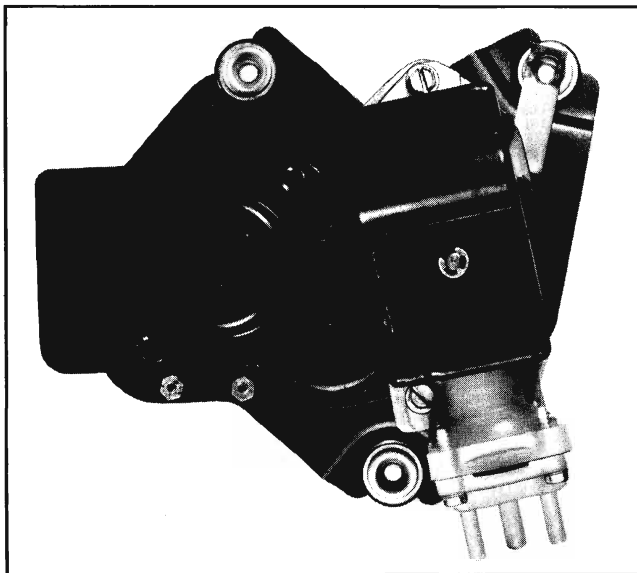

Fig. 11-85 Washer Pump Mounting Screws
1. For wipers equipped with a washer pump remove the two washer pump mounting screws (Fig. 11-85) and lift washer pump off wiper.